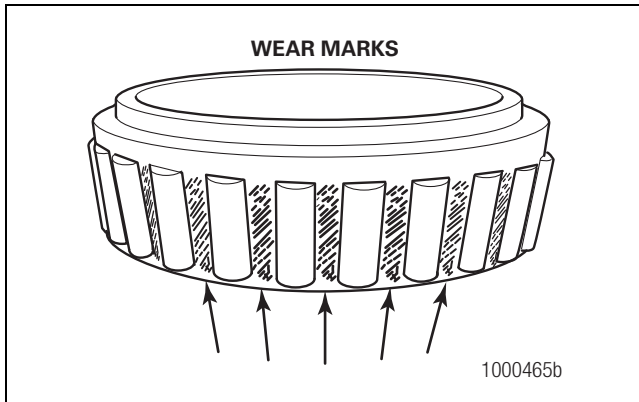

Figure 5.3
- There are bright wear marks on the outer surface of the roller cage. Figure 5.3.